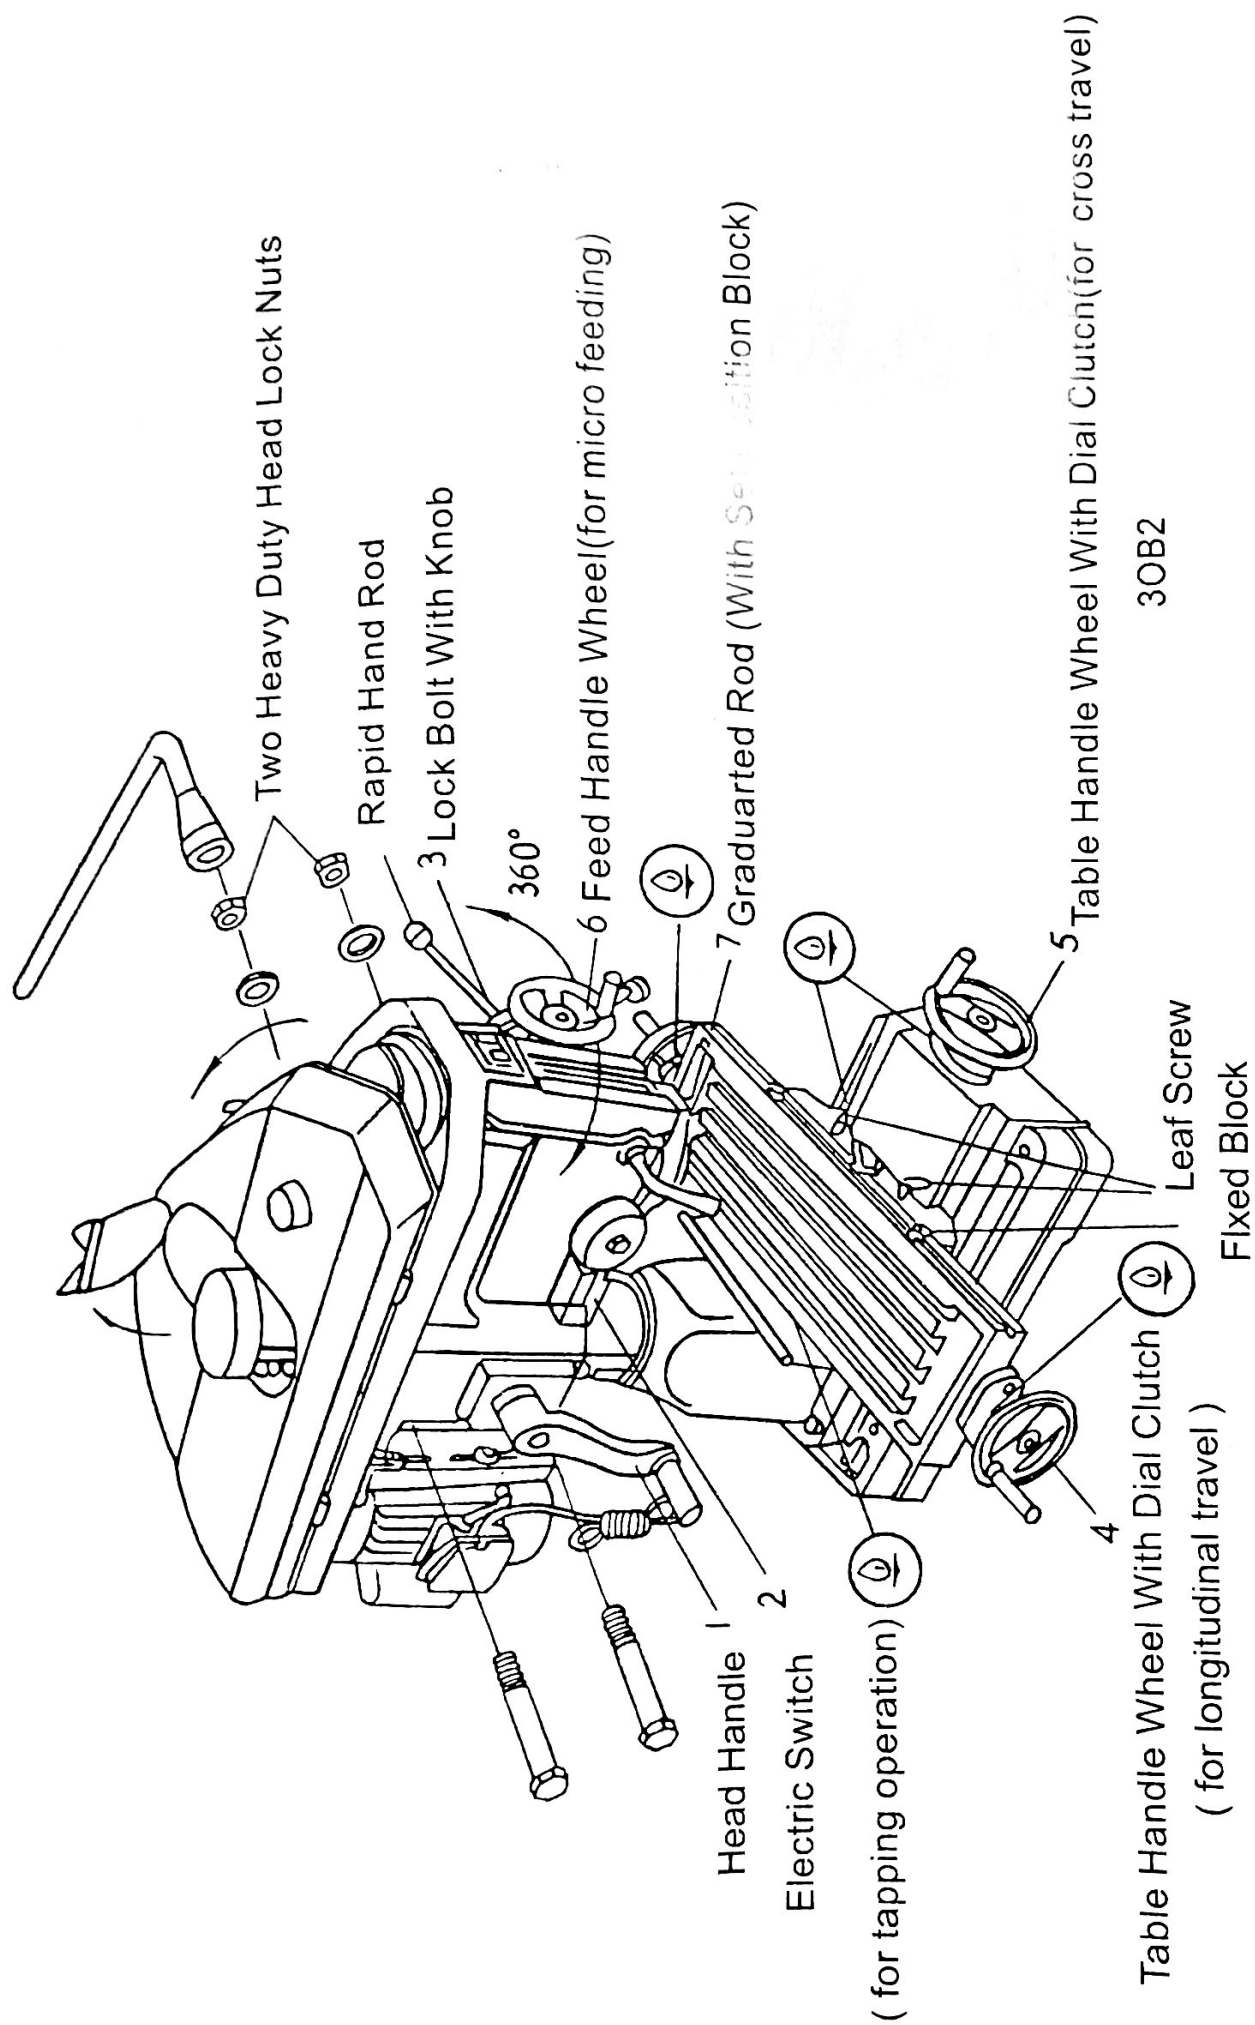

Figure 1
- (1) Your machine has been coated with a heavy grease to protect it in shipping. This coating should be completely removed before operating the machine. Commercial degreaser, kerosene or similar solvent may be used to remove the grease from the machine, but avoid getting solvent on belts or other rubber parts.
- (2) After cleaning, coat all bright work with a light lubricant. Lubricate all points in Fig.1 with a medium consistency machine oil.
- (3) Lubricating points as shown in arrows.
5 USE OF MAIN MACHINE PARTS(See fig 1)
(2) After Operation
(3) Adjustment of Head
- (a) To raise and lower the head, loosen the two heavy duty head lock nuts shown in fig. 1. Use the left side head handle to raise and lower the head on its rack and pinion mechanism. When the desired height is reached, tighten the bolts to avoid vibration.